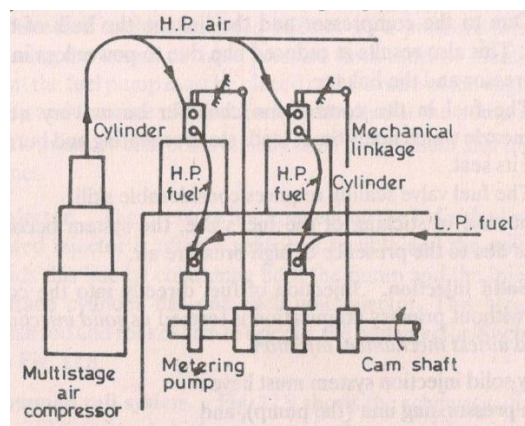

Fig. 2. Air injection system
efficiency. On the positive side, this residual gases is useful to lower the burned gases temperature after combustion is complete, reducing the NO_x emissions. Figure 2 shows effects of the valve overlap period on emissions of NO_x and hydrocarbon (HC) at two different engine loads.
Figure 2. Effects of valve overlap on emission of pollutants at 2000 rpm and two different engine loads. HC and NO_x are hydrocarbon and nitric oxides emissions.